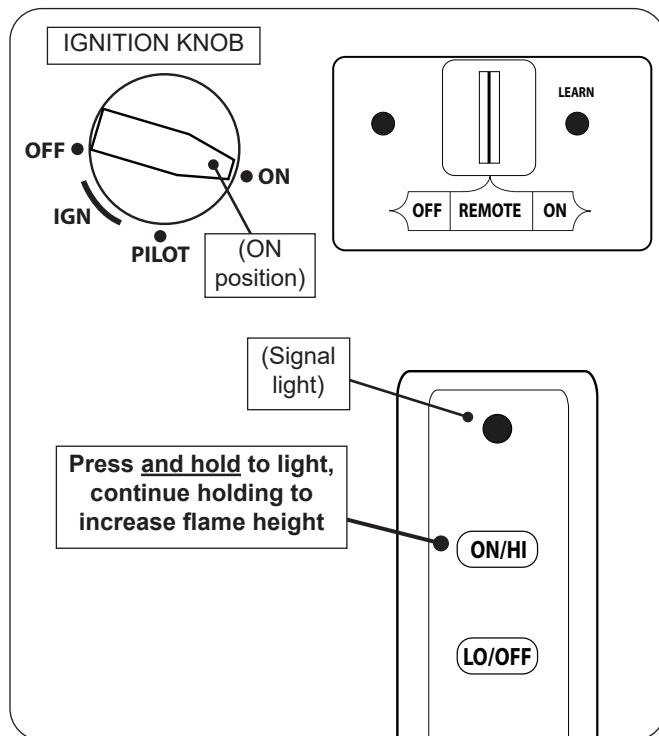

Fig. 43-1 Remote lighting
1. Ensure the pilot is burning. Turn the ignition knob counterclockwise ↶ to **ON** (see Fig. 43-1).
2. Locate the 3-position switch on the remote receiver, and slide the switch to **REMOTE** (see Fig. 43-1).
3. Locate the remote transmitter and press and hold the **ON/HI** button (see Fig. 43-1). The ignition sequence will begin.